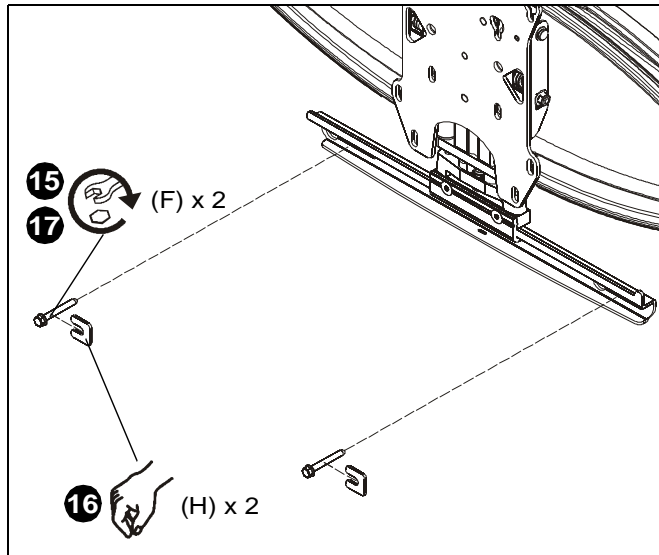

Figure 10
15. Loosely install two 5/16 x 2 1/2" flange head lag screws (F) through lower wall rail on main assembly and into concrete anchors. (See Figure 10)
16. Place two installation spacers over two flange head lag screws. (See Figure 10)
17. Tighten two screws (F) to secure main assembly (M) to wall. (See Figure 10)